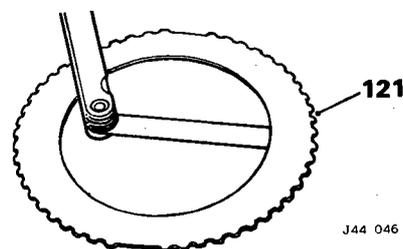

Fig. 45
- 121. Check that coning on outer clutch plates is not less than 0.25 mm (0.010 in) (Fig. 45).